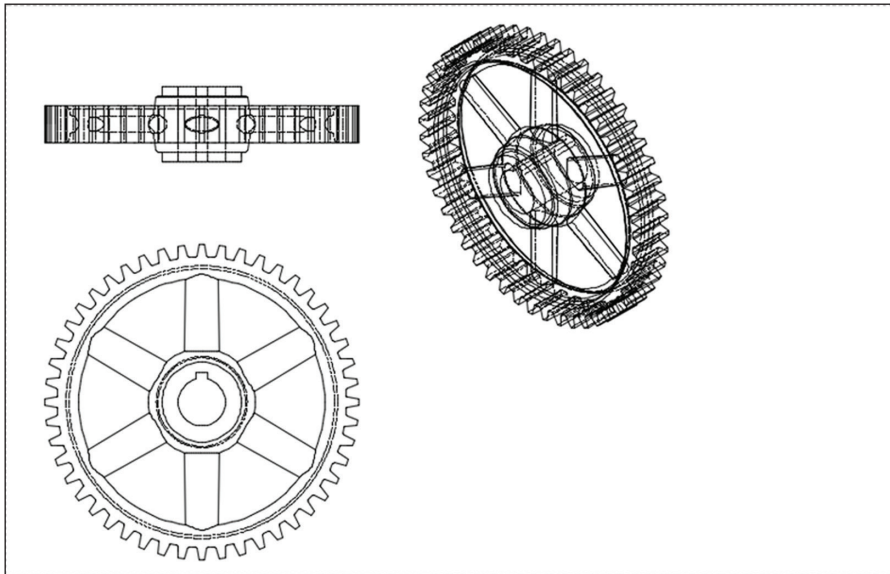

FIGURE 18.22 Locating projected views of the base drawing on the layout
7. Click a third point at a 45-degree angle with respect to the base plan to locate an isometric projection and press Enter to end the command. The drawings display in wireframe view showing hidden lines with a dashed linetype (see Figure 18.22).